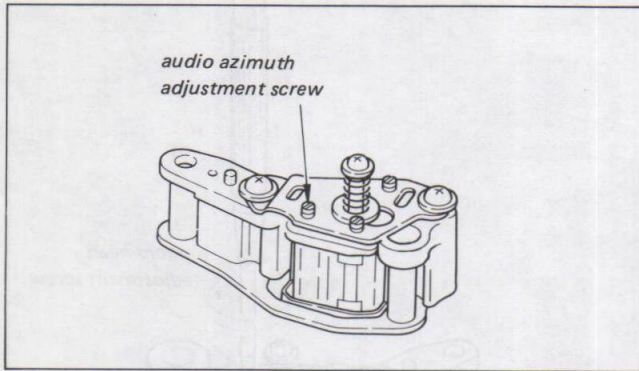

Fig. 4-12.
- 2) Turn the azimuth adjustment screw (Fig. 4-12) so that the amplitude of the 5 kHz waveform is maximum.